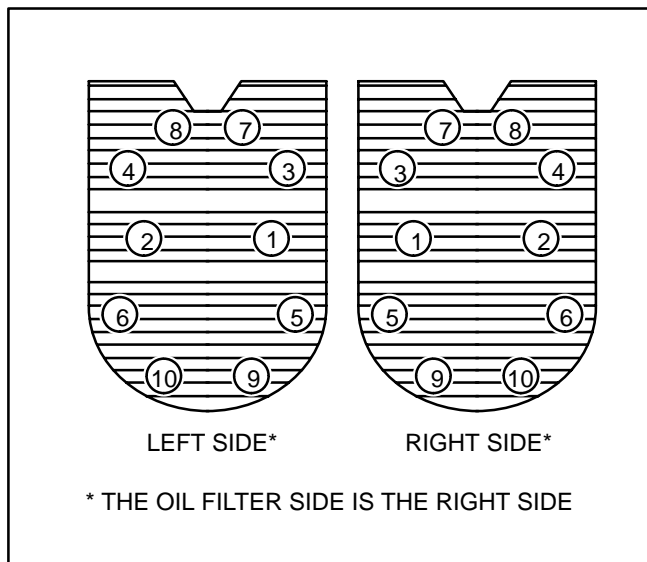

FIGURE 7-1. CYLINDER HEAD BOLT TORQUE SEQUENCE
See Figure 7-1. Remove and clean the cylinder heads as follows when poor engine performance is noticed:
7. Torque the head bolts in steps of 5 lb-ft (7 N-m) in the numbered sequence shown in Figure 7-1 up to the specified torque of 15-17 lb-ft (20-23 N-m).